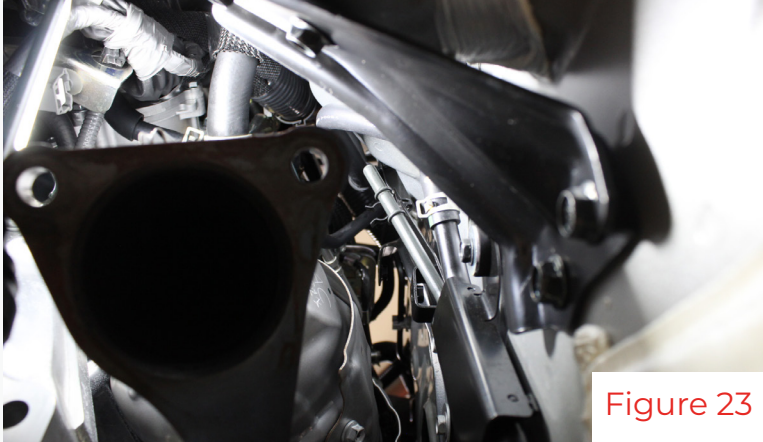
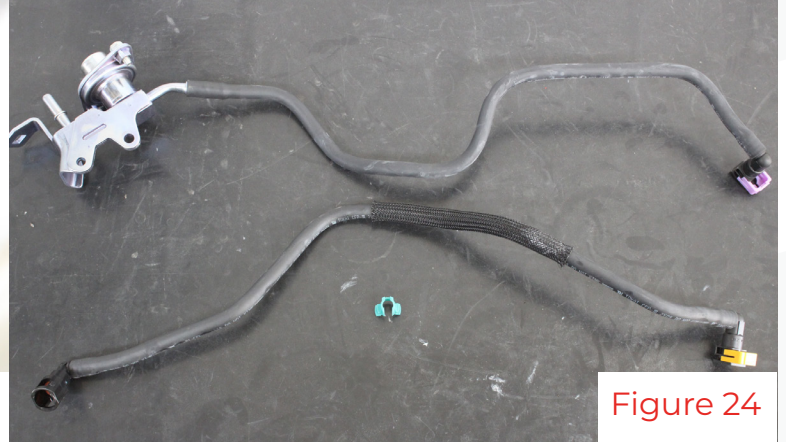

Figure 23
Figure 24
14. Remove the fuel line and green plastic fuel line clip(fig 23). Now you should have both the fuel lines and clip removed(fig 24).